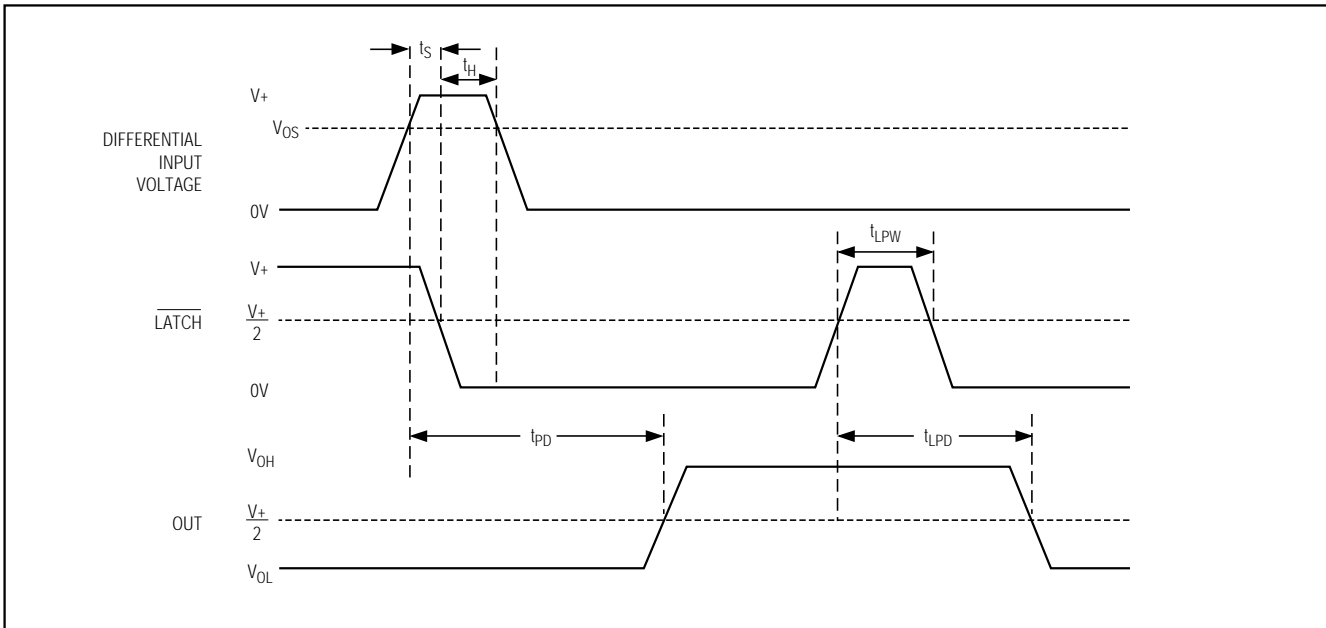

Figure 2. MAX941 Timing Diagram with Latch Operator
- Note 8:** Parameter is guaranteed by design and specified with VOD = 5mV and CLOAD = 15pF in parallel with 400μA of sink or source current. VOS is added to the overdrive voltage for low values of overdrive. See Figure 2.
- Note 12:** Applies to the MAX941 only. Comparator is active with LATCH pin driven high and is latched with LATCH pin driven low. See Figure 2.
The MAX941 includes an internal latch that allows storage of comparison results. The  $LATCH$  pin has a high input impedance. If  $LATCH$  is high, the latch is transparent (i.e., the comparator operates as though the latch is not present). The comparator's output state is stored when  $LATCH$  is pulled low. All timing constraints must be met when using the latch function (Figure 2).